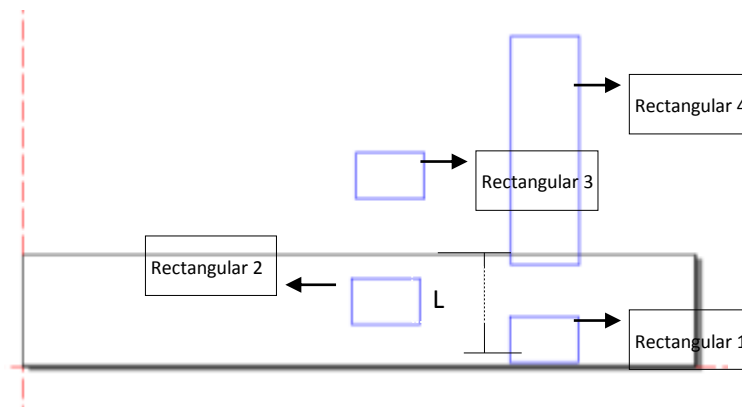

Fig.4-6
2. The figure exceeds the breadth of the machine, and single curve may exceed the breadth, as shown in fig.4-6: